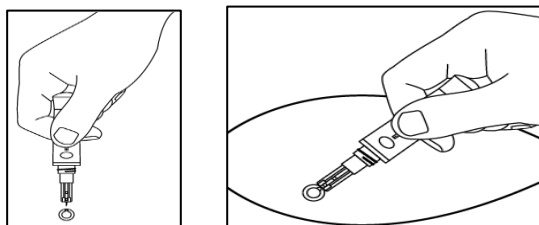

Fig 5.37
Step 10: Unscrew the lancing device cover. Place the safety cap of the lancet on a hard surface and carefully insert the lancet needle into the safety cap. Press the release button to make sure that the lancet is in the extended position. Slide the ejection button forward to eject the used lancet. Place the lancing device cover back on the lancing device (Ref Fig 5.37).